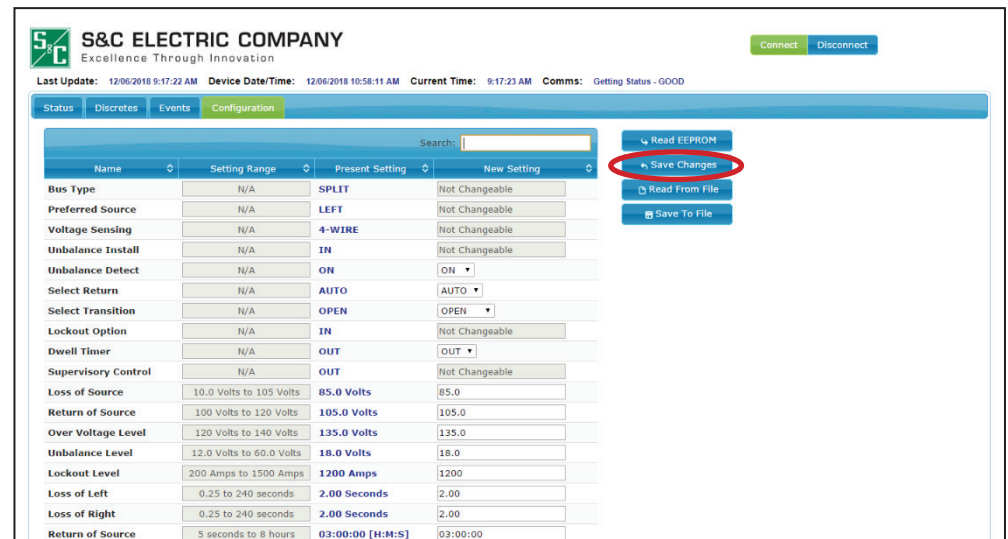

Figure 19. The Save Changes button.
STEP 3. Make sure the desired settings have been entered and formatted correctly per the values shown in the “Setting Range” column. If there are invalid entries, the invalid fields will be highlighted. When the desired parameters have been set, click on the **Save Changes** button to save the settings to the Micro-AT control. See Figure 19.
STEP 3. Make sure the desired parameters have been set. If there are invalid entries, the invalid field will be highlighted. When the desired parameters have been set, click on the **Save Changes** button to save the settings to the Micro-AT control. See Figure 19 on page 21.